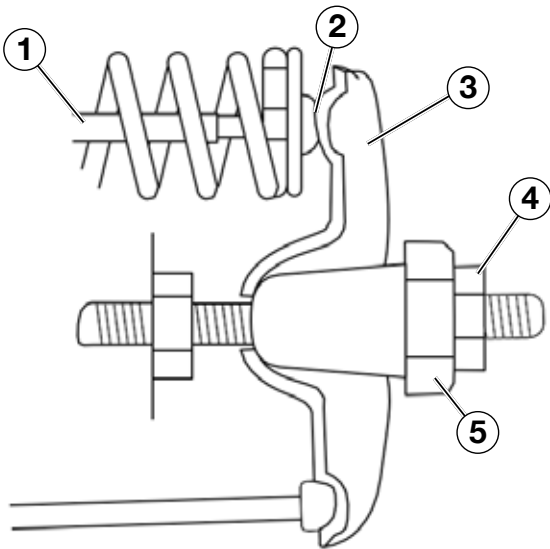

Figure 23
5. Insert a feeler gauge between the rocker arm and the push rod and check for clearance (see Figure 23). See table below for valve lash specifications